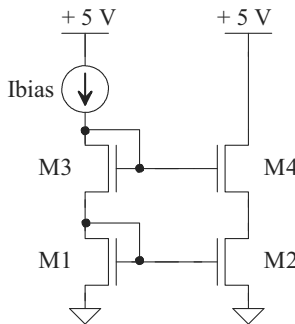

Figure 9.42 Schematic for Problem 9.7.
9.7 Explain qualitatively what happens to V_{GS4} and V_{DS4} in Fig. 9.42 as the bias current is increased.